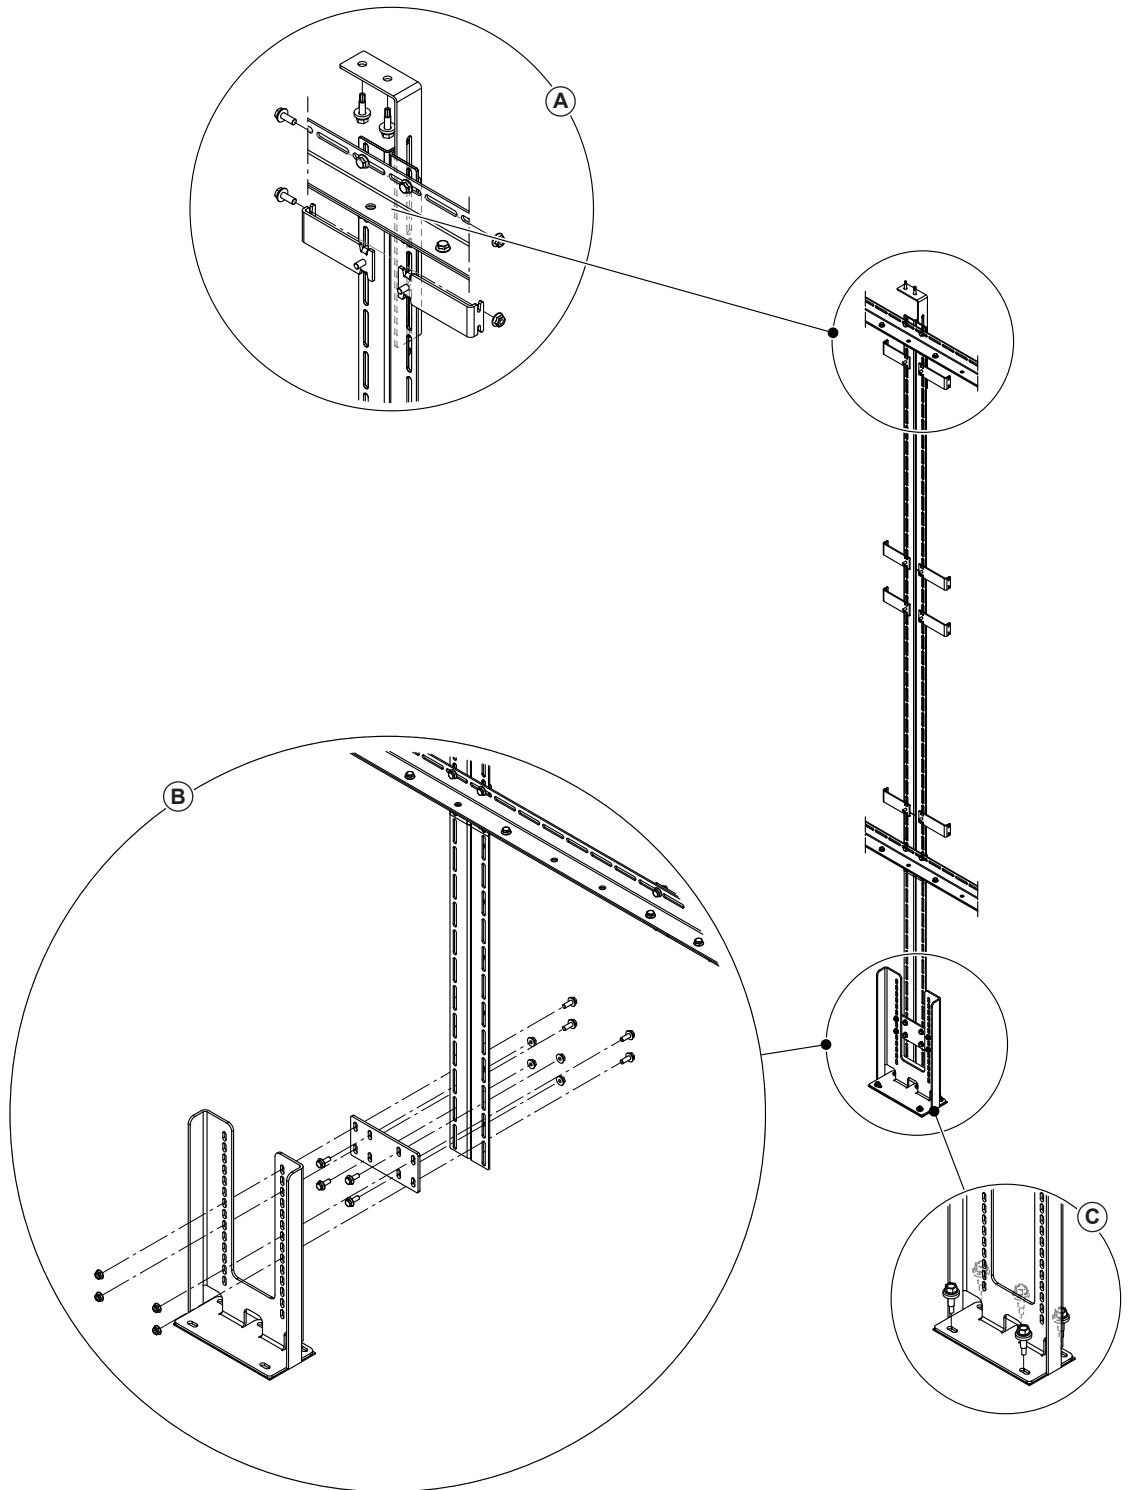

Fig. 29: Mounting the bottom leg support and the angle bracket to the middle vertical support
- If necessary, loosen the two screw connections fixing the angle bracket to the vertical support, push angle bracket to the duct ceiling, then fasten the two screw connections again (see detail A in Fig. 29).
- Fix angle bracket of the vertical support(s) with two appropriate self-tapping screws to the duct ceiling (see detail A in Fig. 29).
- Fix fastening plate of the leg support at the appropriate position on the lower end to the vertical support with four screws M6 x 16 mm and nuts supplied. Slightly fasten the screw connections only (see detail A in Fig. 29).
- Fix leg support to the fastening plate with four screws M6 x 16 mm and nuts supplied. Slightly fasten the screw connections only (see detail B in Fig. 29).
- Shift the leg support down to the air duct/AHU floor, then fix the leg support to the traverse/ tub partitionment using five appropriate self-tapping screws (see detail C in Fig. 29).